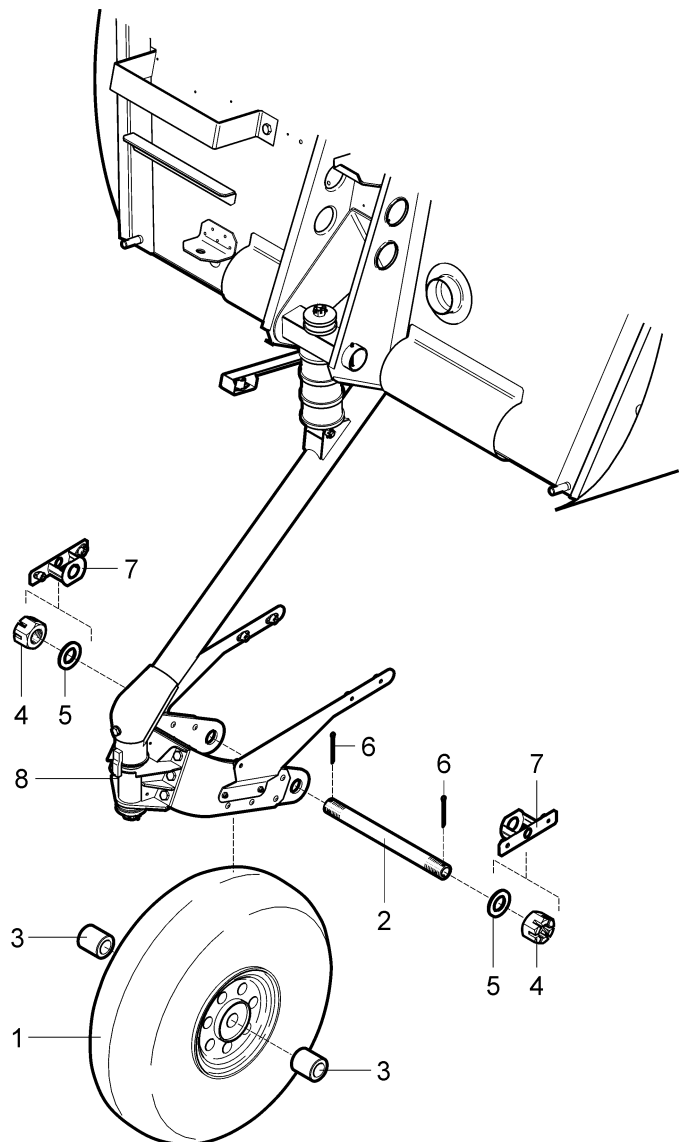

Fig. 8-9: Nose landing gear wheel removal / installation
(c) Remove the cotter pin (6, Fig. 8-9) securing nut (4) on wheel axle (2) – on one side only.
- (a) Clear the wheel axle (2, Fig. 8-9) of impurities and grease it slightly.
- (b) From one side shift the axle (2) into the wheel fork eye (8).
- (c) Gradually put first bushing (3), nose wheel (1) and second bushing (3) on the wheel axle (2) and tow bracket (7) according to the figure.
- (d) From one side install washer (5), screw nut (3) - set the tow brackets (7) so that the axes of holes for bolts fastening fairings were horizontally; tighten nut (3).
- (f) Secure the nut (3) with the new cotter pin (6).